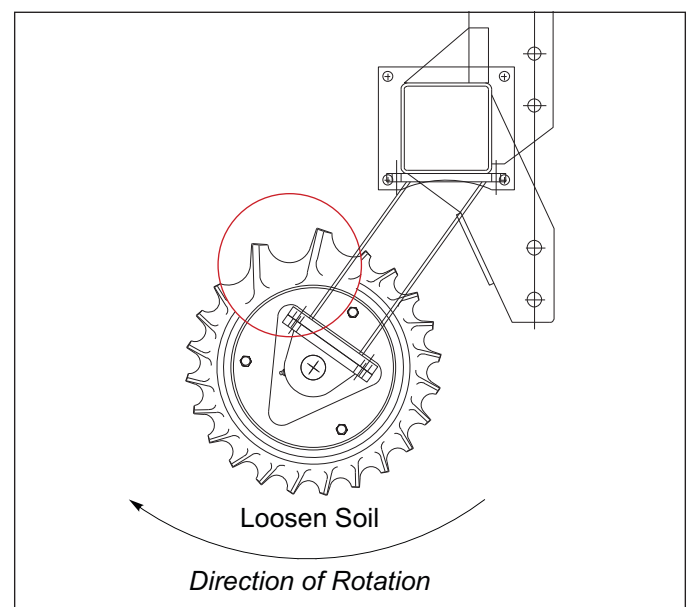

Figure 3-3: Roller Asm Orientation: Loosen the Soil
- When the Roller Assembly is installed in reverse as shown in **Figure 3-3**, the Roller Wheels will act more like a rotary hoe and will have a tendency to loosen the soil.